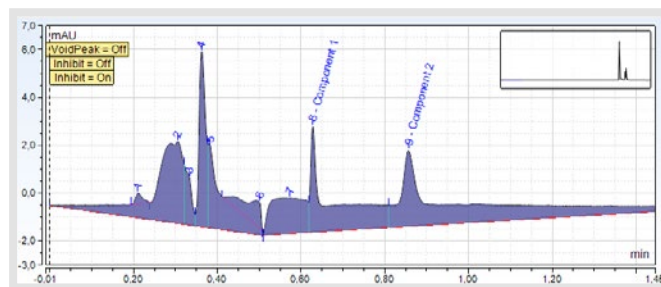
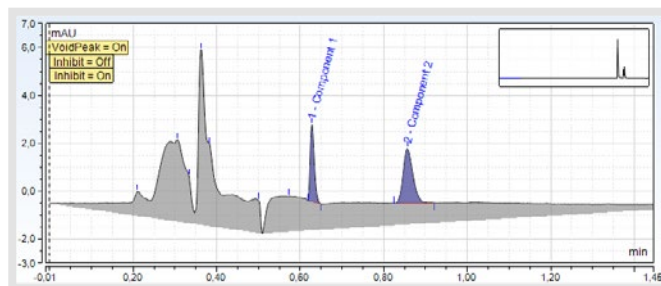

Figure 1: Consider Void Peak Function not active
Figure 2: Consider Void Peak Function active
**INTEGRATION AREA:** It can be easily controlled by the initial and final time where areas should be integrated. A injection peak, or even a peak occurring through a purge step, can be eliminated by initiating or terminating the integration therefrom. If a component table already exists, a negative injection peak can be detected automatically by the function Consider Void Peak and excluded from integration (Figure 1 and Figure 2)